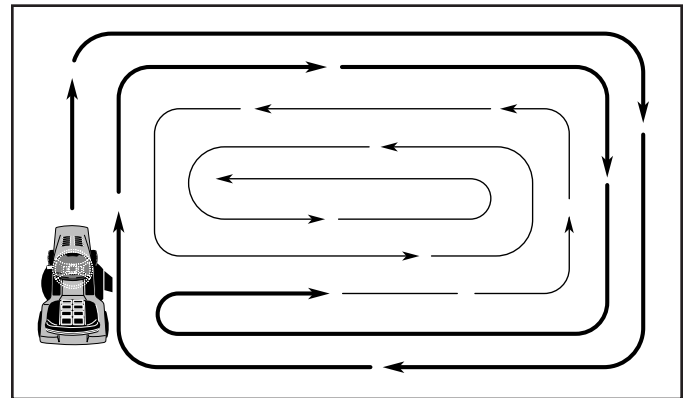

Fig. 13
USING THE REVERSE OPERATION SYSTEM (See Fig. 13)
- When mowing large areas, start by turning to the right so that clippings will discharge away from shrubs, fences, driveways, etc. After one or two rounds, mow in the opposite direction making left hand turns until finished (See Fig. 13).